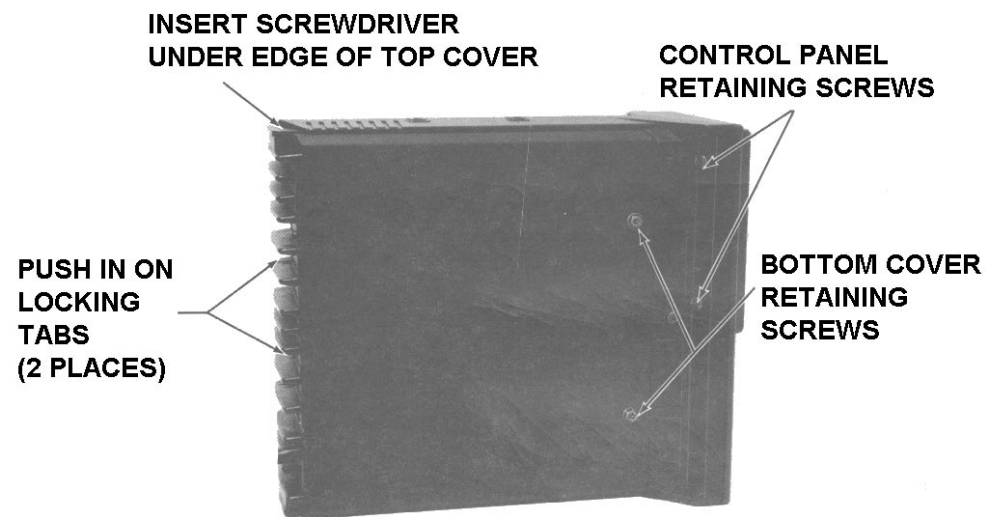

Figure 1 - Bottom View
1. Insert a small standard screwdriver under one side of the top cover and gently pry the side of the cover away from the frame releasing the locking tab (refer to Figure 1).
relief (refer to Figure 1). The bottom cover can then be removed from the radio.